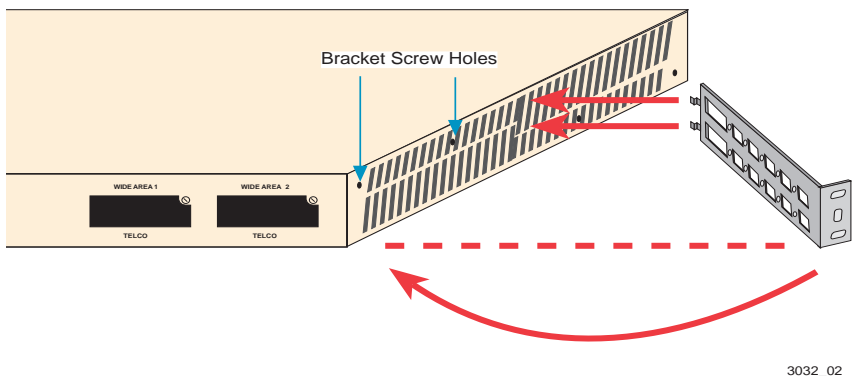

Figure 3-7 Aligning the Brackets for Installation
2. With the faceplate, or front of the SSR-600, towards you, align the front of the bracket with the front of the SSR-600. Locate the slots that align with the rear flanges of the bracket. See Figure 3-7.
3. Swing the front of the bracket out and insert the flanges into the slots. If the front of the bracket does not line up with the front of the SSR-600 and the screw holes when you swing it in to the SSR-600, readjust the position until it does. See Figure 3-7.